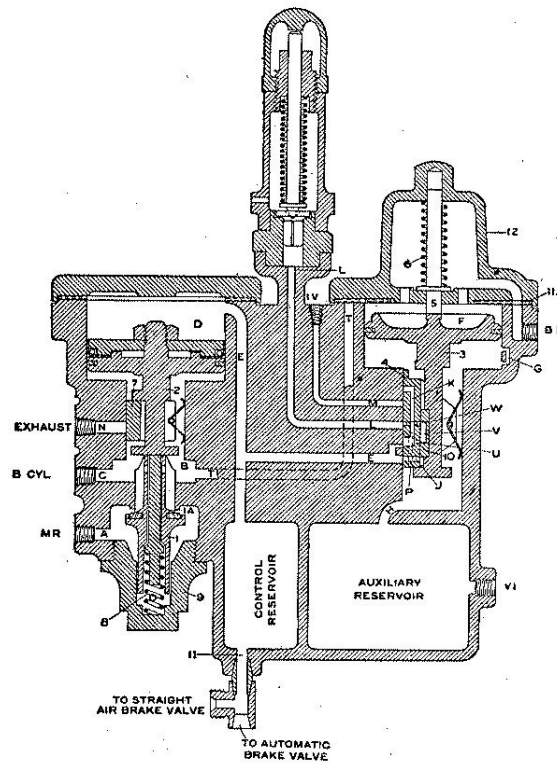
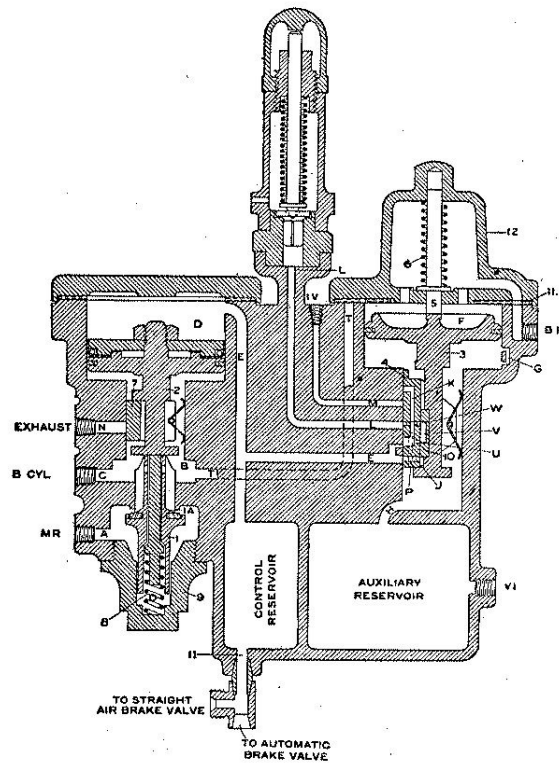

Fig. 22: Automatic Control Valve.
Fig. 23: Automatic Control Valve.
The first movement of the piston closes the feed groove "G", also moves the graduating valve 10, uncovering the service port "J" in the slide valve 4, and the continued movement of the piston moves the slide valve to service position, in which the service port "J" connects with port "E" in the valve seat. (See Fig. 22.) As the slide valve chamber and auxiliary reservoir are connected at all times, air can now flow from the auxiliary to the control cylinder "D" and control reservoir, through ports "H", "J" and "E", until the pressure on the lower or auxiliary side of piston 3 becomes slightly less than that in chamber "F" or brake pipe side, when the piston and graduating valve will move down until the shoulder on the piston strikes the slide valve; this movement of the graduating valve closes the service port "J", thus closing the communication between the auxiliary and control cylinder and reservoir, also closing port "W", which leads to the safety valve. (See Fig. 23.)
A. Pressure forming in this cylinder will force the piston downward. The piston in moving down will carry the exhaust valve 7 with it, closing the exhaust port "N" and moves the preliminary admission valve "1A" from its seat against the tension of spring 8, allowing the pressure in chamber "O" to pass to the brake cylinders, thus creating a balancing effect on valve 1, which allows it to be opened against main reservoir pressure, thus allowing main reservoir air to flow from chamber "A" to chamber "B" and the brake cylinders on the locomotive (see Fig. 22) until the pressure in the brake cylinders and chamber "B", below piston 2, becomes slightly greater than that in the control cylinder "D" when the piston will move up just far enough to allow the valves "1" and "1A" to be seated, or to lap position. (See Fig. 23.)